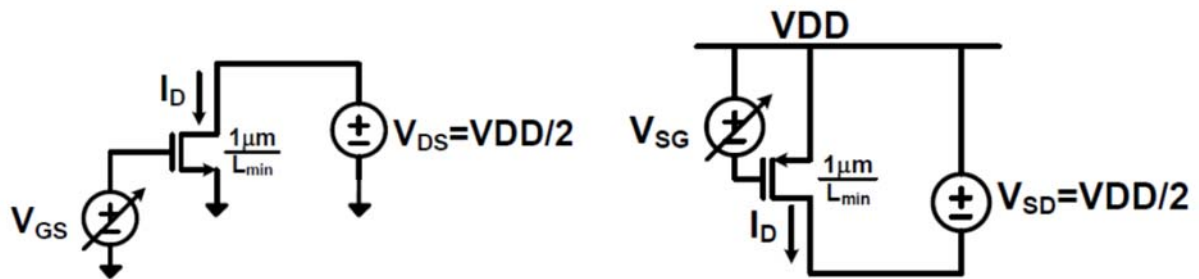

Figure 8 (a) NMOS f_T Test Circuit
- Figure 8. The easiest way to do this is to run a DC sweep with $|V_{\text{GS}}|$ varying from 0 to VDD and plot the following equation.